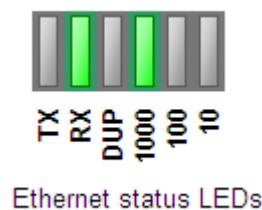

Figure 4-15: Ethernet Status LEDs
2. Check the on-board Ethernet status LEDs (Figure 4-15) to make sure the Ethernet interface is attached to an active Ethernet segment. The LEDs should reflect the link speed and the duplex mode at which the interface is operating. If no LED is on, press the CPU Reset button to reset the FPGA, and also examine whether the Ethernet segment is active.